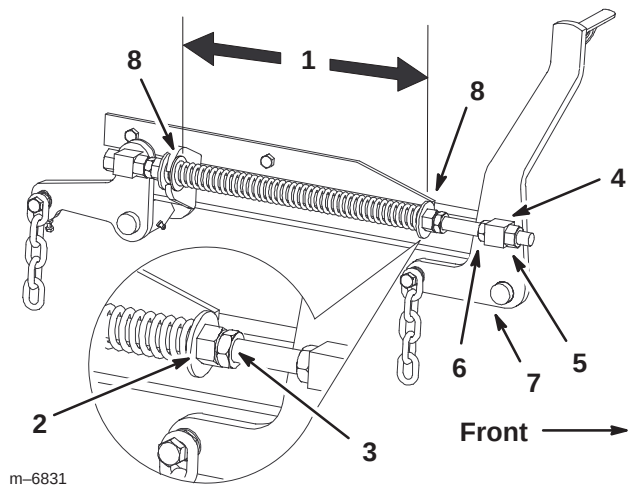

Figure 65
7. Loosen the front swivel jam nuts, at the front of the right and left swivels, approximately a 1/2 inch (13 mm) (Fig. 65).
8. Adjust the lift nuts on both the left and the right side of the machine to achieve **1/4 to 3/8 inch (6 to 10 mm) lower in front at A than in the rear at B** (Fig. 65).
2. Check the distance between the two large washers, it needs to be 10–1/2 inches (26.7 cm) (Fig. 65).
3. Adjust this distance, by loosening the spring jam nut and turning the nut in front of each spring (Fig. 65). Turning the nut clockwise will shorten the spring; counter-clockwise will lengthen the spring.
4. Lock the nut into position by tightening the spring jam nut (Fig. 65).